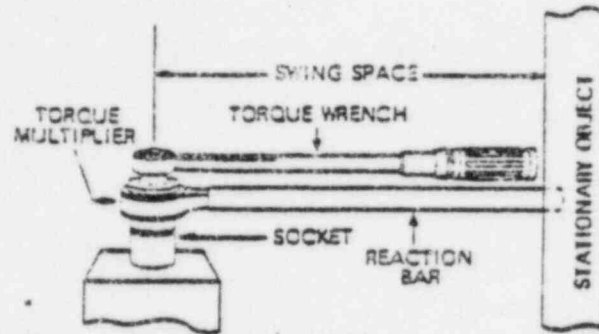

Figure 2: Swing Space
- b. In the previous example, a torque wrench having a handle length of 6 feet would have to be used to limit the force applied by the individual to 100 pounds. If 6 feet of swing space (Figure 2) is not available, the required handle length and/or effort can be reduced by using a torque multiplier as described in section 2, Use of Williams Torque Multipliers.